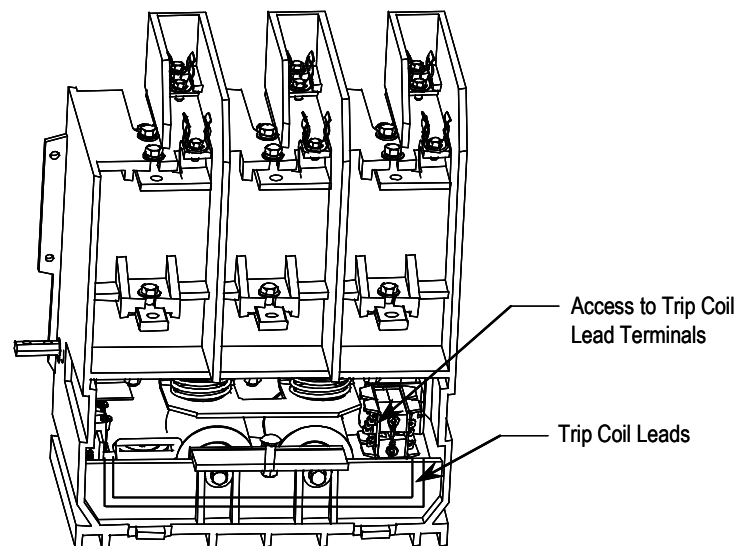

Figure 4.22 – Trip Coil Lead Routing
8. Route the trip coil leads as shown in Figure 4.22 and reconnect them to the auxiliary terminals. Secure the leads to the back panel of the housing with wire ties. Refer to the appropriate wiring diagram in this manual if control wiring details are required.